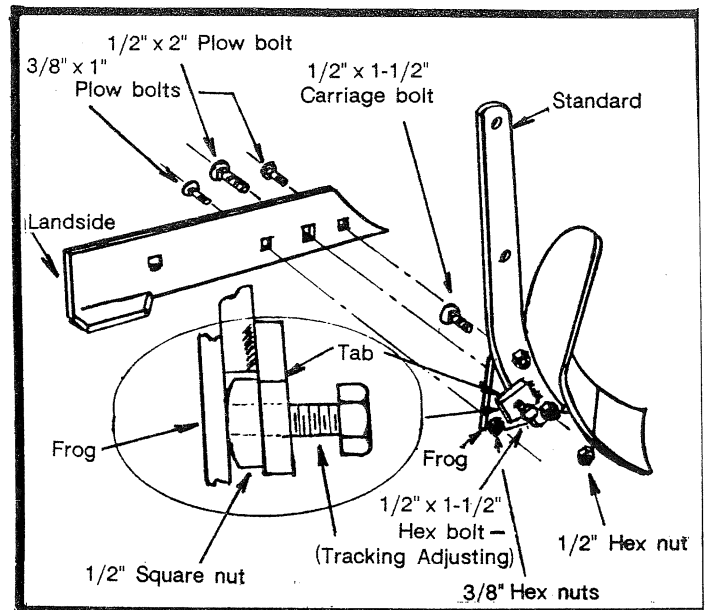

FIG. 2
Refer to Fig. 2
- For most plowing conditions, the landside will be properly adjusted (from Fig. 2 assembly), enabling the plow bottom to react like a rudder while ground engaged. But if the tip of the plow share is too far LEFT of the beam, the plow will tend to overcut and leave a ragged furrow wall. This condition can be readily corrected by making the following adjustment.